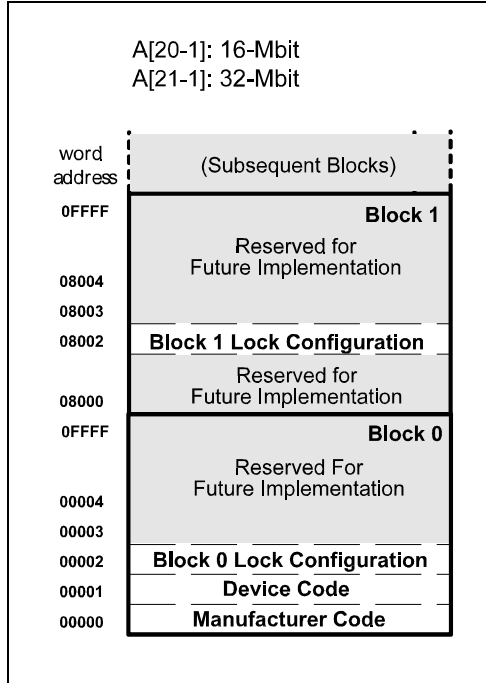

Figure 6. Device Identifier Code Memory Map
The read-identifier codes operation outputs the manufacturer code, device code, and block lock configuration codes for each block configuration (see Figure 6). Using the manufacturer and device codes, the system software can automatically match the device with its proper algorithms. The block-lock configuration codes identify each block's lock-bit setting.
| Read Identifier Codes | 4     | V IH | V IL                                       | V IL                                       | V IL     | V IH     | See Figure 6 | X                   | D OUT  | High Z (9) |